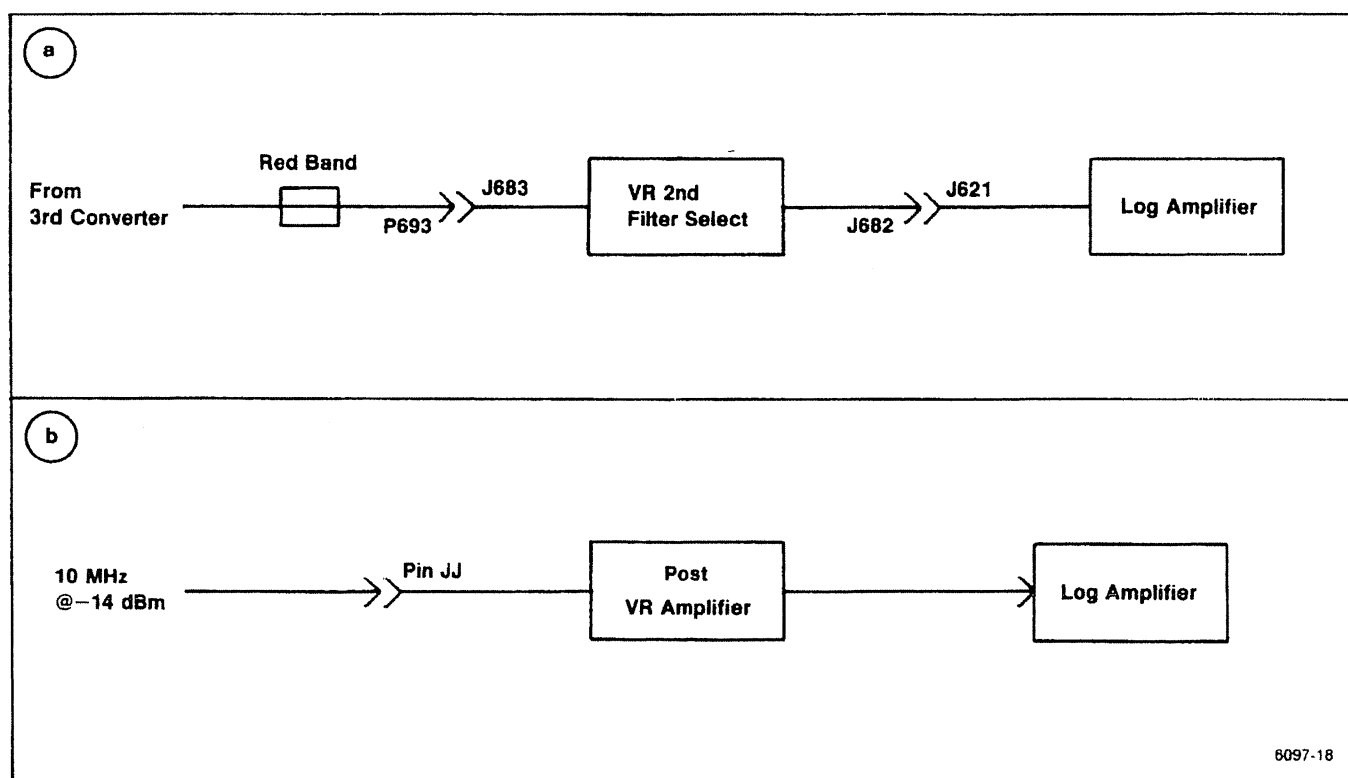

Figure 5-14. Test equipment setup for adjusting the Variable Resolution module.
a. Equipment setup is shown in Figure 5-14.
(1) Remove and install the Variable Resolution module on an extender.
(2) Use a Sealelectro male-to-male adapter and coaxial cable to connect the 10 MHz IF output signal, from the 3rd Converter, to the input of the second section (make connection from plug removed from J693 to J683).